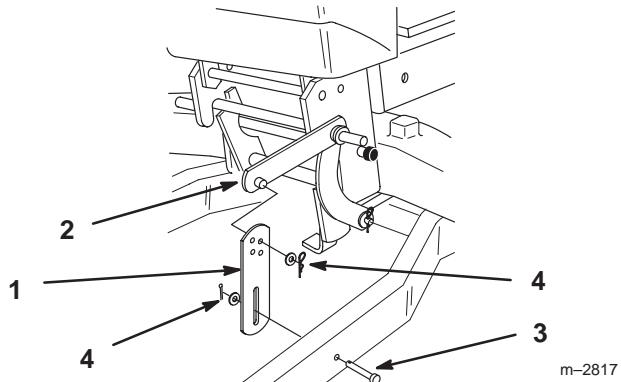

Figure 12
11. Install adjustment link between snowblower frame, with clevis pin, and lift link arm. Secure with washers and hairpin cotters (Fig. 12).